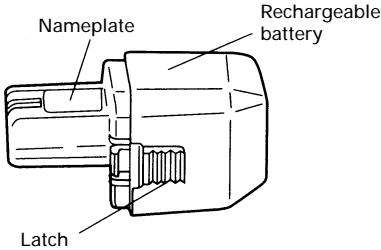

Fig. 2
- 2. Insert the battery into the charger. Position the battery so that the nameplate faces toward the ventilation slots of the charger and push in the battery until it contacts the bottom plate. (See Figs. 2 and 3.)